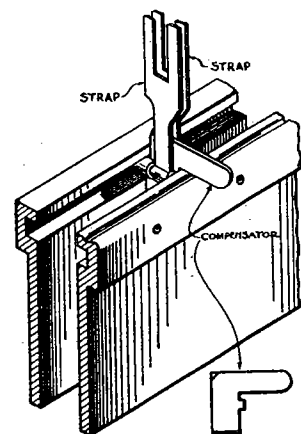

Figure 2. Compensator properly placed between two straps.
4. Compensators are Brass Spacers (Figure 2). Each compensator inserted will reduce by one the number of Voting Pointers that may be turned down. **COMPENSATORS MUST BE INSERTED BETWEEN A PAIR OF STRAPS** and NOT between a strap and roller. To insert a compensator, separate a pair of straps with the finger of one hand, and with the other hand, grasp the rounded end. Turn the compensator sufficiently to permit it to pass down into the channel, and then turn it back so that the short projecting lug engages in the groove carrying the roller. It will usually be found necessary to temporarily remove several Grouping Pins in order to make sufficient room to insert the compensator.